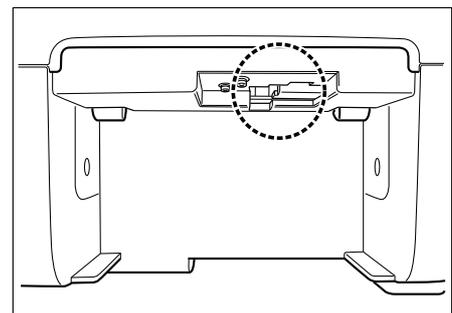

Figure 28
6. Remove the wafer disposal box and check visually that there are not jammed wafers inside from the front of TSCD[®]-II (See Figure 28). After confirming, return the wafer disposal box.